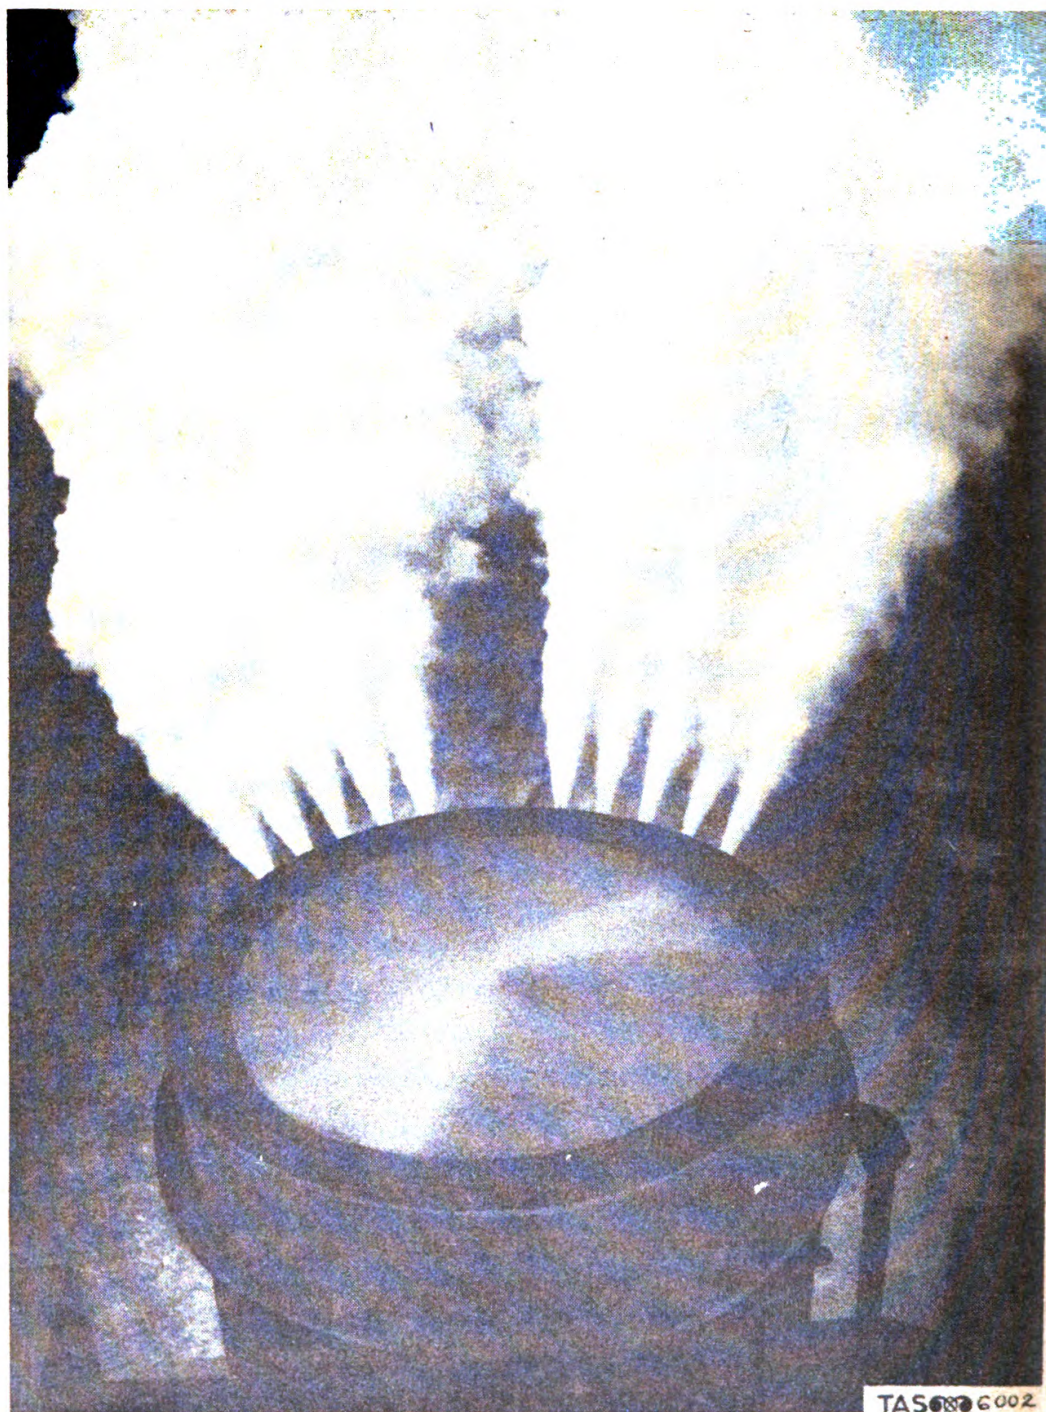

Fig. 2. Generator Making Smoke.
2. PURPOSE AND USE OF GENERATOR. a. Purpose. The generator is designed to throw into the air a dense streamer of white smoke. (See fig. 2.)